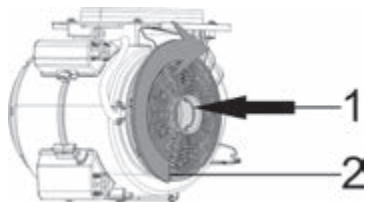

Fig. 7 CARBON FILTER
- 1-Place the carbon filter in its housing.Fig. 7
- 2-Rotating the carbon filter clockwise, ensure that it is completely fit. (Fig. 7)